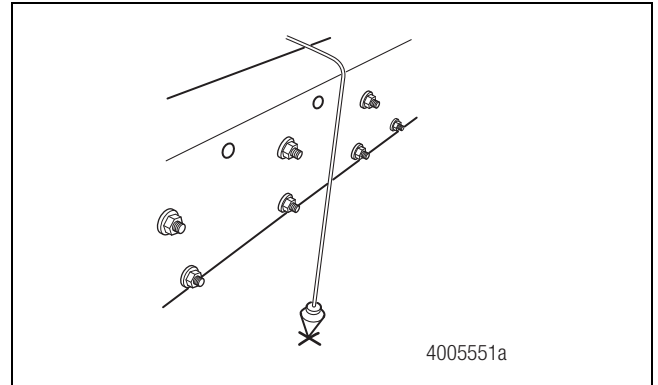

Figure 13.29
2. Attach a plumb bob to the frame rail in line with the transmission universal joint. Mark a point on the ground just below the plumb bob. Figure 13.29.